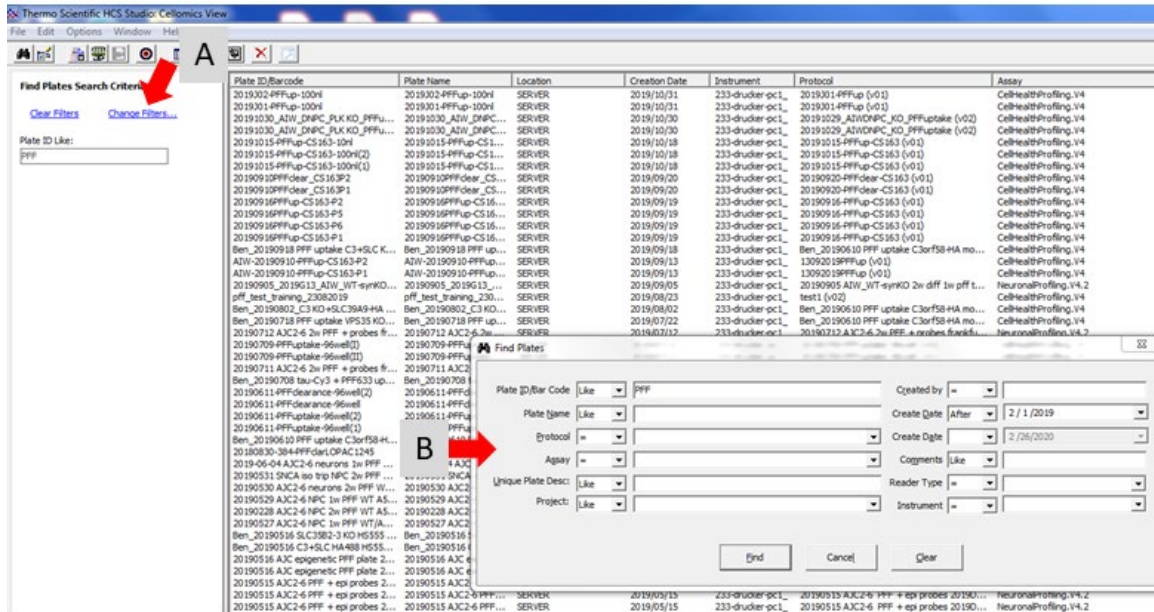

Figure 11. View database search. A) Click to open search window. B) Search window. Set features to select scan results.
14. Under the **Select Features to Store** tab, the full list of well features should be selected and placed into the left field. (**Figure 11, arrow**).